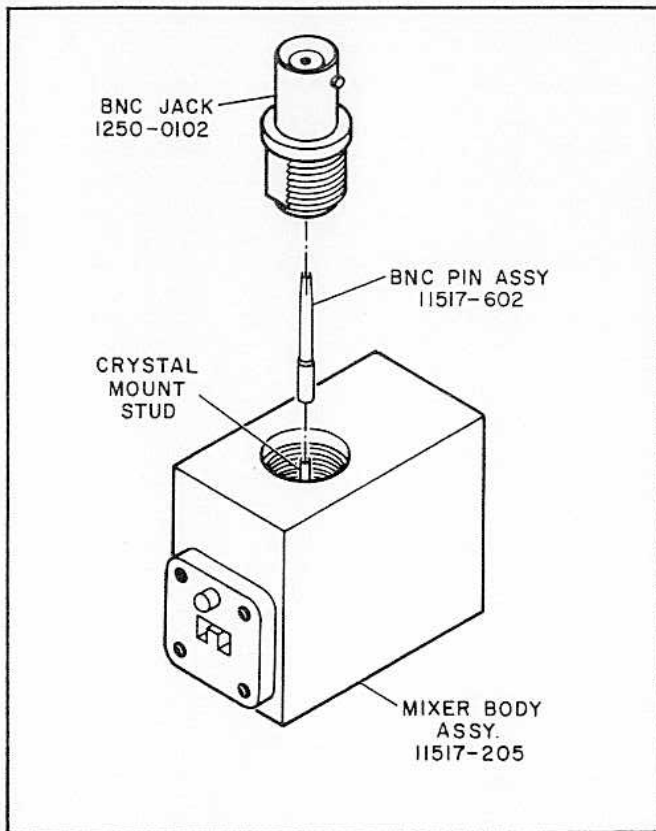

Figure 4. BNC Connector and/or Pin Assembly Replacement, 11517A Mixer
If connector gets damaged, its replacement is simple. Arrangement of mixer and numbers for parts are shown in Figure 4. For parts ordering procedure, see Ordering Parts.
- b. Hewlett-Packard part number (see Figure 4)